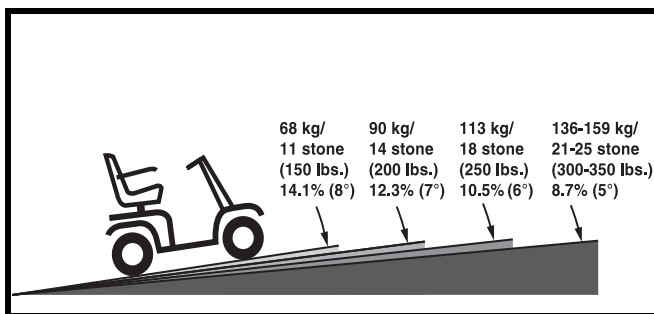

Figure 1. Maximum Recommended Incline Angles (3-wheel)
**WARNING! Even though your scooter is capable of climbing slopes greater than those illustrated in figure 1, do not, under any circumstances, exceed the incline guidelines or any other specifications presented in this manual. Doing so could cause instability in your scooter.**
Handicap public access ramps are not subject to government regulation in all countries and therefore do not necessarily share the same standard percent of slope. Other inclines may be natural or, if man-made, not designed specifically for scooters. Figures 1 and 1A illustrate your scooter's stability and its ability to climb grades under various weight loads and under controlled testing conditions.
**WARNING! Any attempt to climb or descend a slope steeper than what is shown in figures 1 and 1A may put your scooter in an unstable position and cause it to tip.**